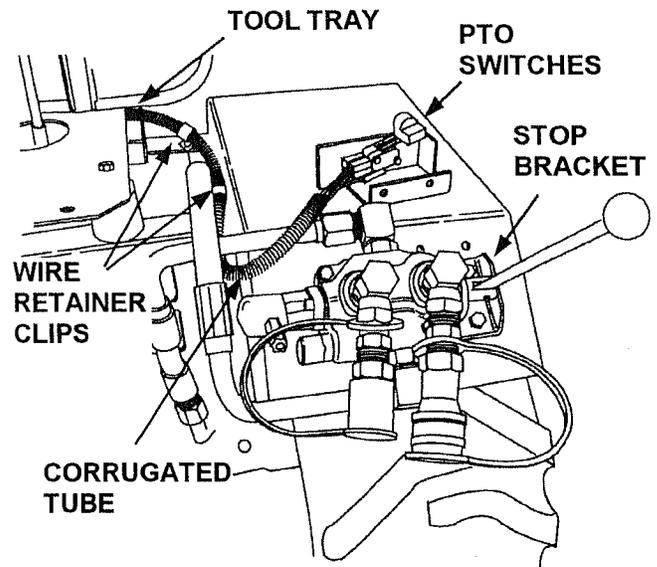

FIGURE 15
4. (See figure 15) Install tool tray. Route corrugated end of wire harness up through slot and out the right side of the tool tray.
7. (See figure 15) Install fenders. Fasten the corrugated tube to the top fender bolts. Use wire retainer clips.